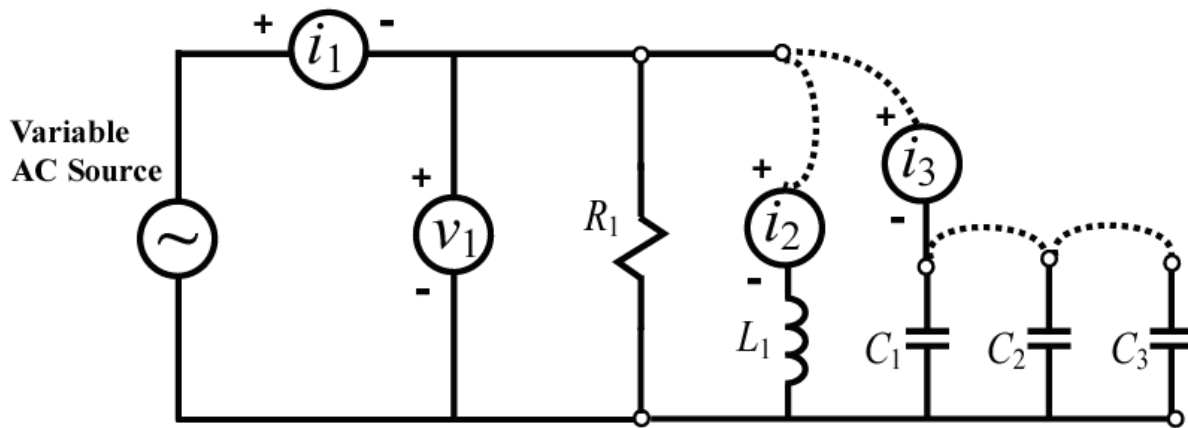

Fig. 4: Wiring diagram of parallel connection of RLC components.
- 1) Using both the **RL Load Box** and **RC Load Box**, wire the circuit shown in the figure below. First, connect one 20 Ohm resistor from the **RL Load Box** to the measurement circuit for Channel 1 to measure V_1 and A_1 , as shown in Fig. 4. Then, connect an inductor and a capacitor in parallel to the resistor, each with a current meter in series, as illustrated below.